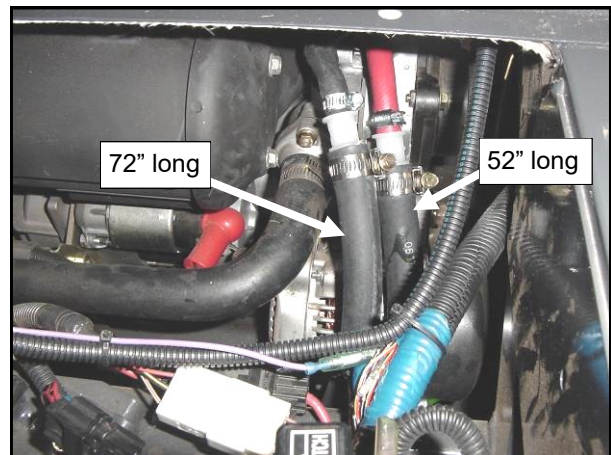

Fig. 3.3 (view from front of driver's side)
3.3 Per figures 3.3 and 3.3.1, connect the longer of the two 5/8" diameter hoses (72") to the small 3/8" diameter original hose using the supplied reducer, a small hose clamp, and a large hose clamp. See the flow diagram on page 9. Connect the 52" long 5/8" diameter hose to the newly supplied 6" long 3/8" diameter hose using the supplied reducer, a small hose clamp, and a large hose clamp. Connect the free end of the 3/8" diameter hose to the port the by-pass hose was removed from.